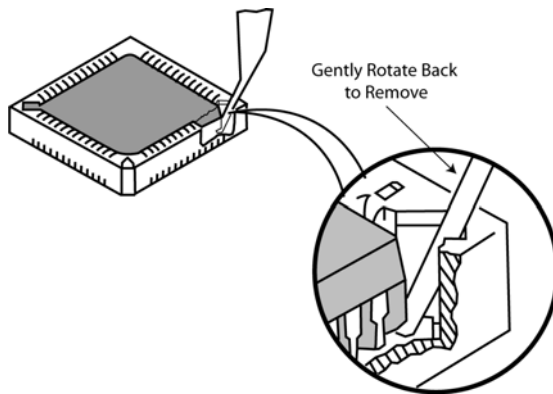

Figure 4: Close-up of Chip Removal
5. With a slight downward pressure, gently rotate the tool away from the chip until the corner of the chip lifts away from the socket (see Figure 4).